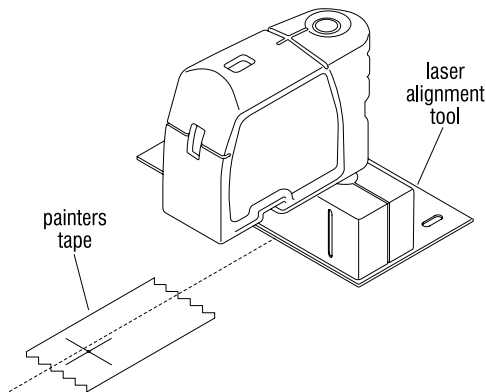

Figure 1
1. Following the KI Installation Plan (shop print), and using a laser alignment tool, painter's tape and a marker, mark square crosses on tape to correctly layout the center points of all post locations onto the floor for the super structure unit being installed. If seismic location post anchor brackets are to be installed (step 2 below), it is recommended to snap chalk lines between center marks (Figure 1).